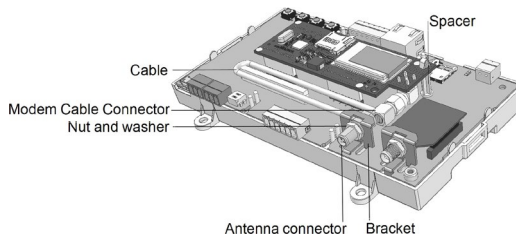

Figure 23: GSM modem on a Commercial Gateway board
1. Insert the top of the plastic spacer through the opening in the GSM modem, as shown in *Figure 23*.